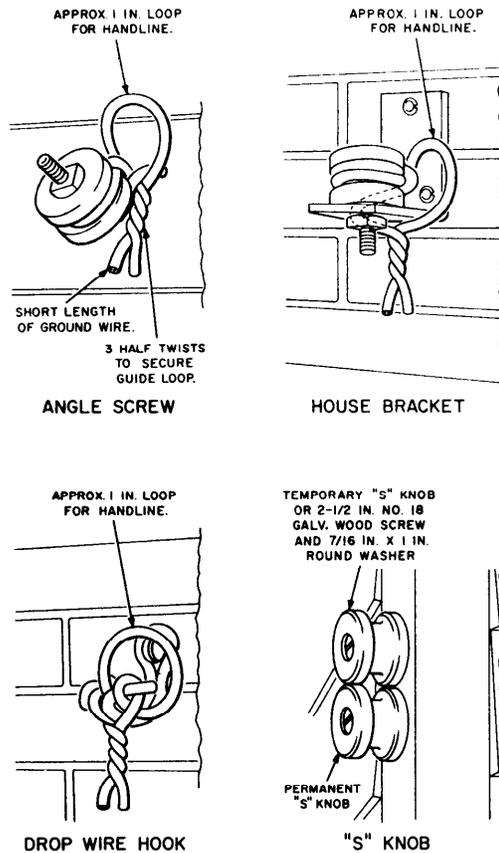

Fig. 2 - Temporary Guide Loop
- At building attachment - use a short piece of ground wire to form a guide loop as shown in Fig. 2.